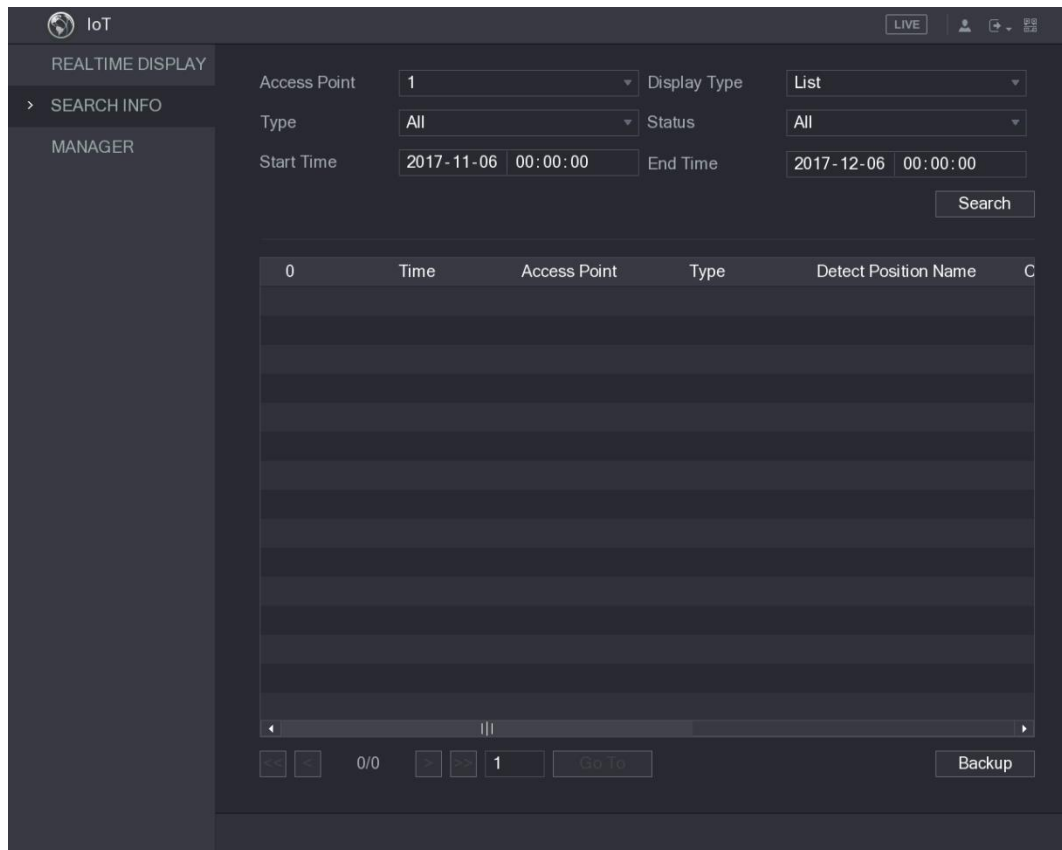

Figure 5-206
Step 1 On the main interface, select **IoT > SEARCH INFO**. See Figure 5-206.